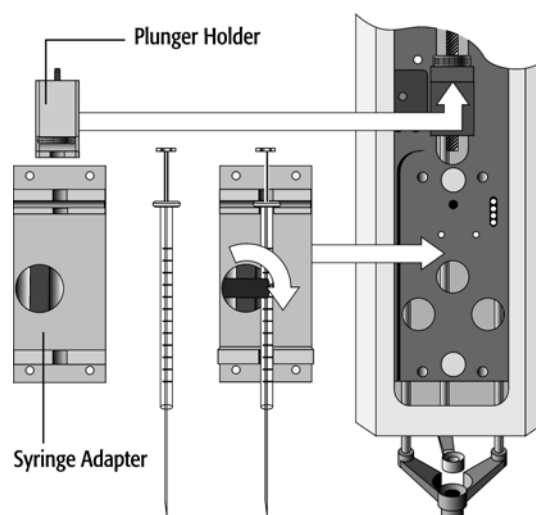

Figure 20. Syringe and Syringe adapter
- 3 Place the syringe in the appropriate syringe adapter. Pull the plunger out to approximately 20% of its length (see Figure 20).